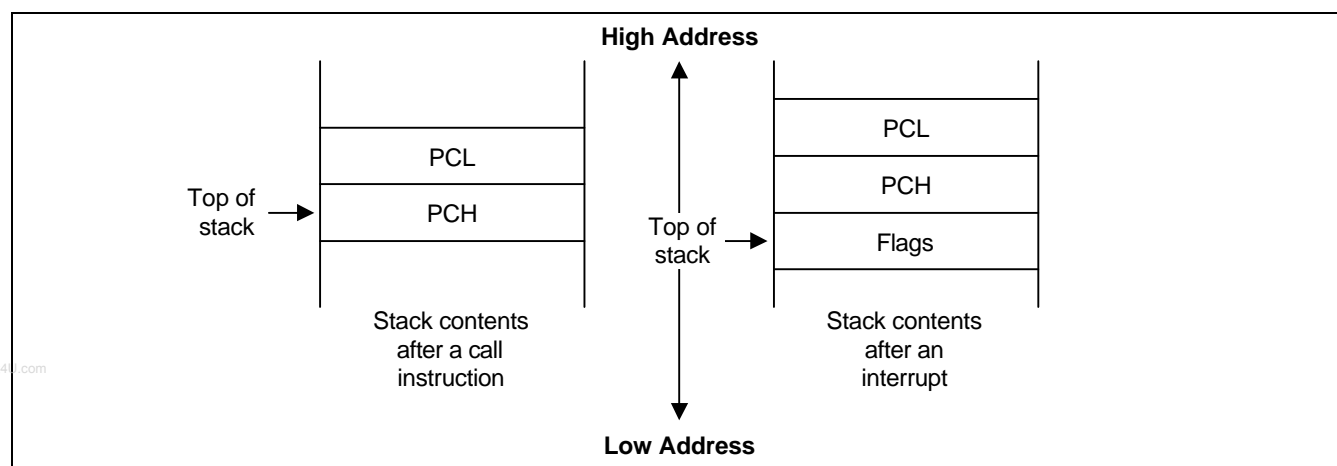

Figure 2-15. Stack Operations
Return addresses for procedure calls, interrupts, and data are stored on the stack. The contents of the PC are saved to stack by a CALL instruction and restored by the RET instruction. When an interrupt occurs, the contents of the PC and the FLAGS register are pushed to the stack. The IRET instruction then pops these values back to their original locations. The stack address value is always decreased by one before a push operation and increased by one *after* a pop operation. The stack pointer (SP) always points to the stack frame stored on the top of the stack, as shown in Figure 2-15.